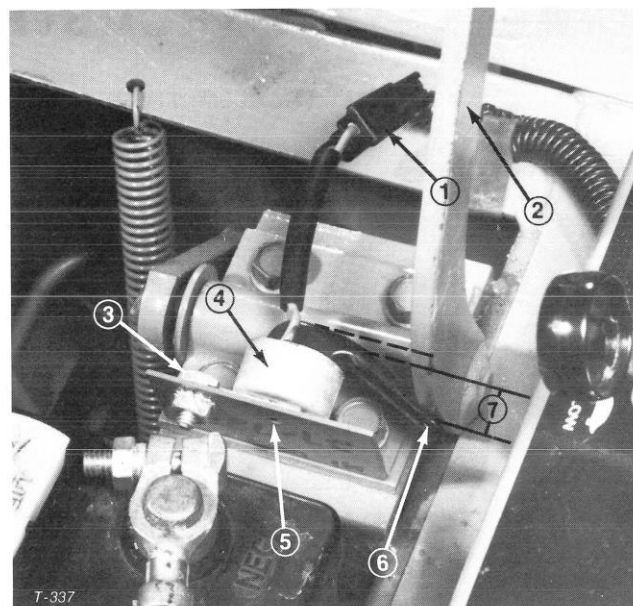

Figure 42
2. Disconnect negative battery cable from battery and separate wire harness connectors (Fig. 42).
3. Move PTO lever to the ON position and remove capscrew and locknut holding switch against mounting bracket (Fig. 42).
4. Install new switch with capscrew and locknut. Move PTO lever to OFF position. When lever is in its normal, released position, the switch arm must bend about 1/2 inch (13 mm) (Fig. 42). If switch arm does not bend 1/2 inch (13 mm), bend the mounting bracket to get the correct adjustment.